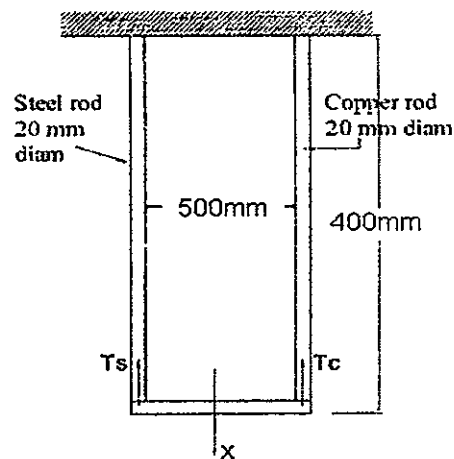

Fig. 1
1. (a) Two vertical rods, one of steel and the other of copper are each rigidly fixed at the top and are 500 mm apart, diameter and length of each rod are 20 mm and 4 m respectively. A cross bar fixed to the rods at the lower ends carries a load of 5000 N such that the cross bar remains horizontal even after loading. Find the tension in each rod. Take  $E_s = 2 \times 10^5 \text{ N/mm}^2$  and  $E_c = 1 \times 10^5 \text{ N/mm}^2$  (Refer Fig. 1) : [6]